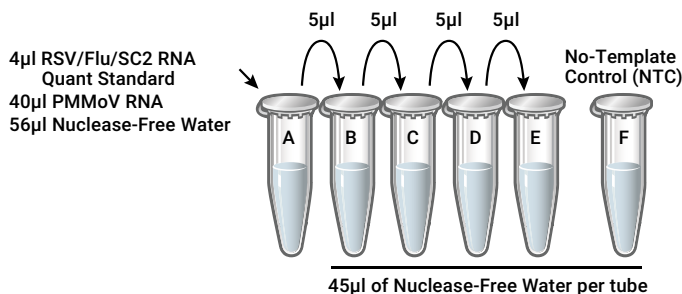

Figure 1. Dilution scheme for the combined RSV, Flu, SC2 and PMMoV RNA standards.
2. Add 4 μ l of RSV/Flu/SC2 RNA and 40 μ l of PMMoV RNA to 56 μ l of Nuclease-Free Water, resulting in a final concentration of 1.6×10^5 RSV/Flu/SC2 RNA copies/ μ l of and 1.6×10^6 PMMoV RNA copies/ μ l (Tube A in Table 1 and Figure 1).
3. Prepare serial tenfold dilutions in low-binding 0.5ml tubes. For example, combine 5µl of RNA with 45µl of Nuclease-Free Water to obtain the following standard curve dilutions (RSV/Flu/SC2 RNA 1.6×10^5 – 16 copies/µl and PMMoV RNA 1.6×10^6 – 160 copies/µl; see Table 1 and Figure 1). Vortex each dilution for 3–5 seconds prior to removing an aliquot for the next dilution. Change pipette tips between dilutions.